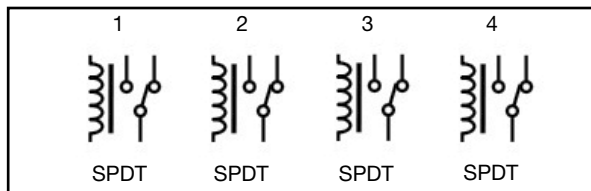

Figure 2.
5. The default output configuration of the new relay board is set as four independently controlled SPDT relays (see Figure 2).